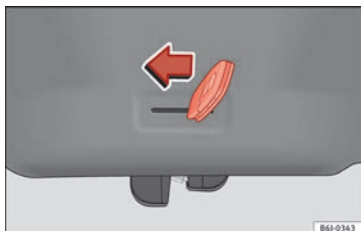

Fig. 6 Unlocking the rear lid manually.
- Insert the key blade into the groove and unlock the locking system, turning the key from right to left, as shown by the arrow » Fig. 6.